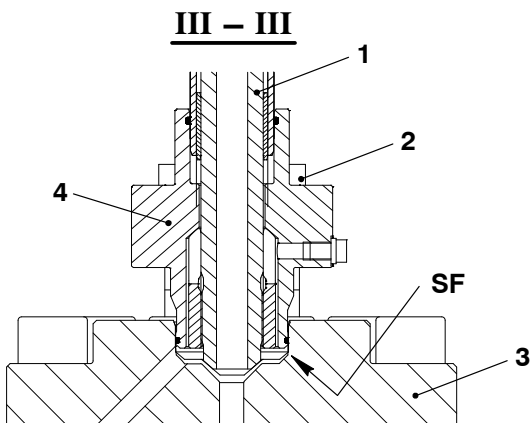

Fig. 9
- 13) Apply protection to the sealing faces (SF) to prevent damage and contamination.
- 14) Remove the four screws (2, Fig. 9) from the flange (4).
- 15) Carefully move the flange (4) away from the fuel pump cover (3).